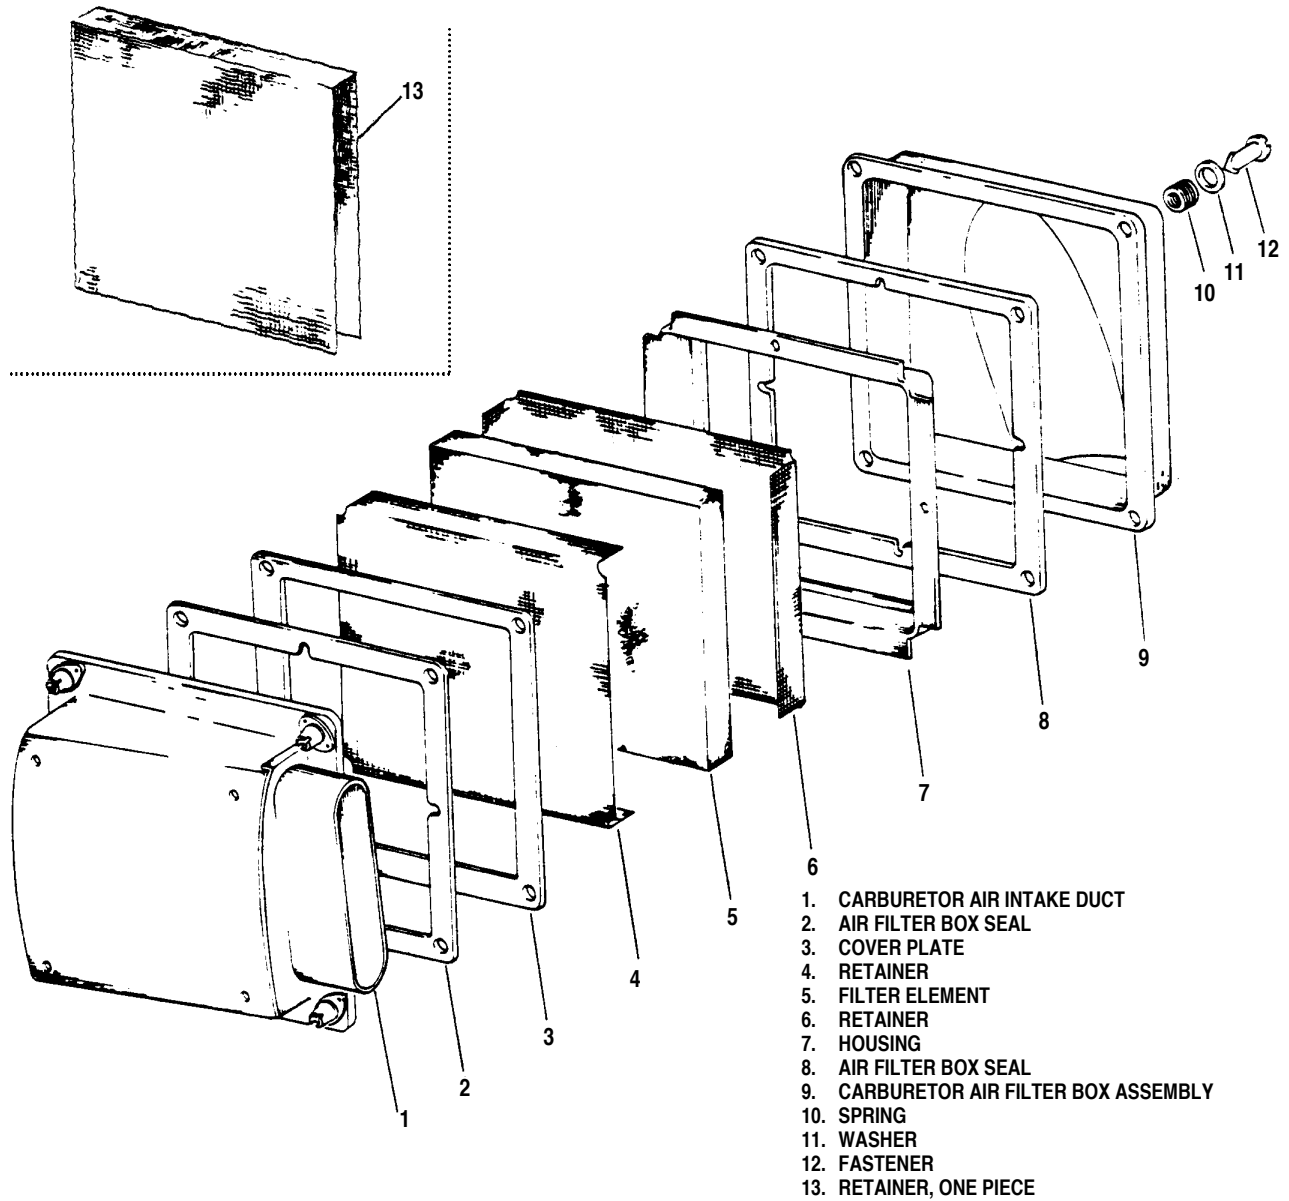

Figure 2-9. Induction Air Filter
a. The fuel strainer, equipped with an easy drain valve is mounted on the lower left side of the fire wall. The fuel strainer should be drained regularly to check for water or dirt accumulations. (Refer to Figure 2-9.)